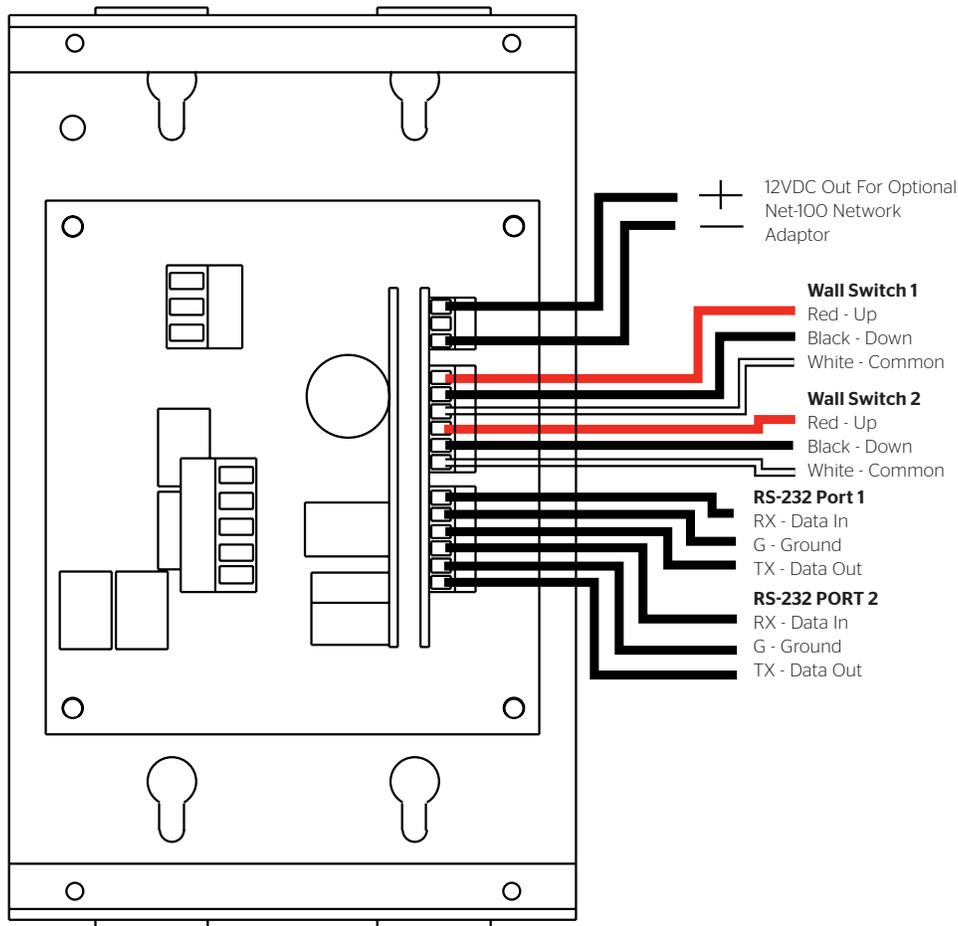

Figure 1
This manual covers installation for both the external SCB-100 and the built-in SCB-100. If you have the external SCB-100, refer to Figures 1, 2 and 3 for wire connections. If your screen has the SCB-100 built into the screen case, refer to Figure 4 for wire connections.
3. Connect the wall switch to the SCB-100 as shown in Figure 1.